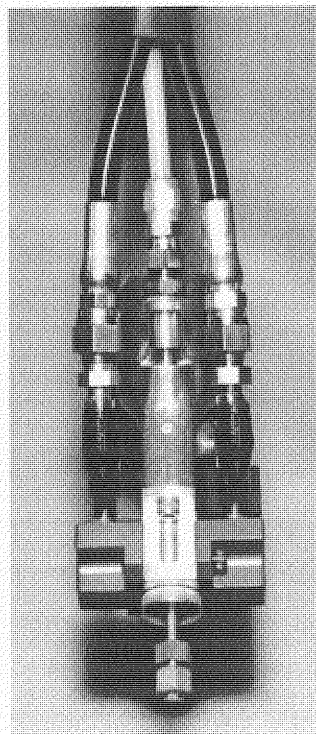

Fig. 2
3. Place separate clean containers under each individual Side Block. Open manual Material Valves (black arrow forward, see Fig. 2 & 3) on each Side Block to allow trapped air to escape the Hose and material to
14. Turn Purge Air and Material Valves ON at Gun. (see Fig. 2 & 3)